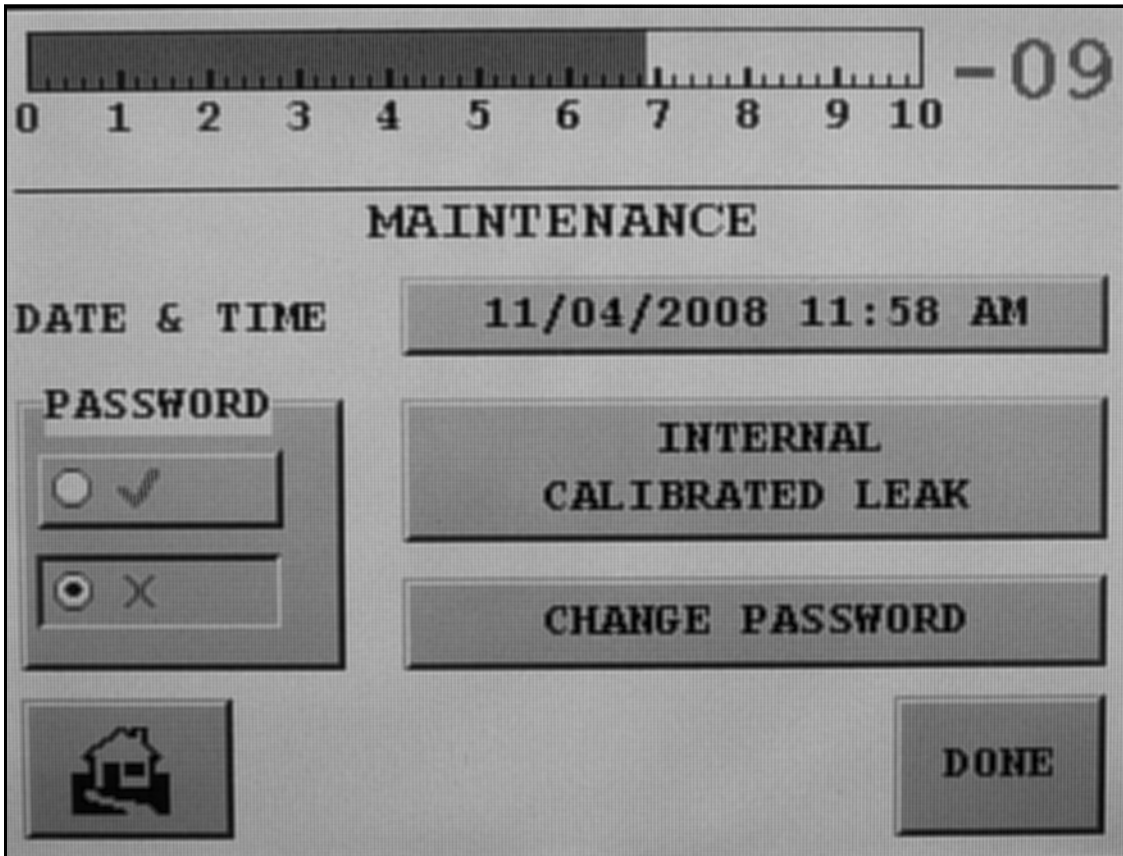

Figure 2-23 Maintenance
1. Press **Maintenance** on the Set-Up screen and the Maintenance screen appears (Figure 2-23).